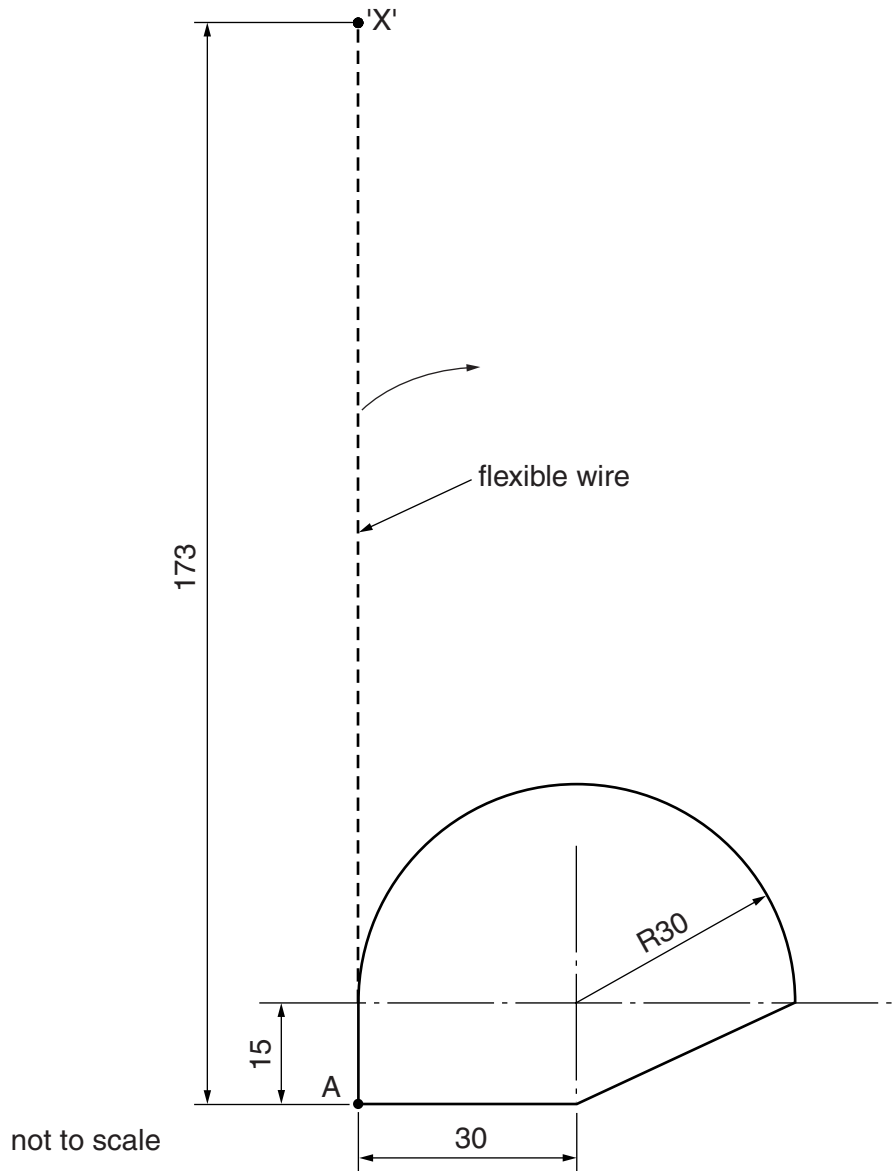

Fig. 1
- 2 Construct the path traced by point X, the free end of a piece of flexible wire 173 mm long, which is fixed at A and is wound clockwise around the component shown in Fig. 1. [20]